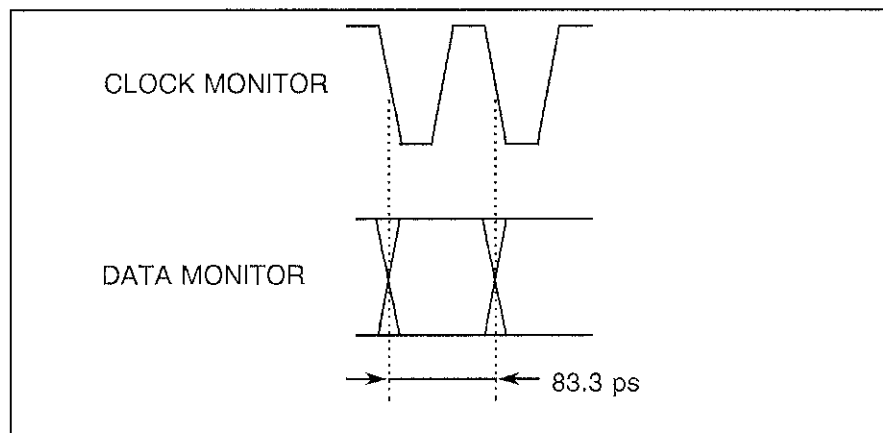

Figure 9-5 Waveform of the CLOCK MONITOR and DATA MONITOR
- (5) If the waveform on the oscilloscope is a square wave which is similar to the one shown in the upper half of Figure 9-5, the CLOCK MONITOR signal is evaluated as normal.
- (6) If the waveform on the oscilloscope is an eye pattern which is similar to the one shown in the lower half of Figure 9-5, the DATA MONITOR output signal is evaluated as normal. However, the relationship between phases of the CLOCK MONITOR and DATA MONITOR signals depends on the delay setting.